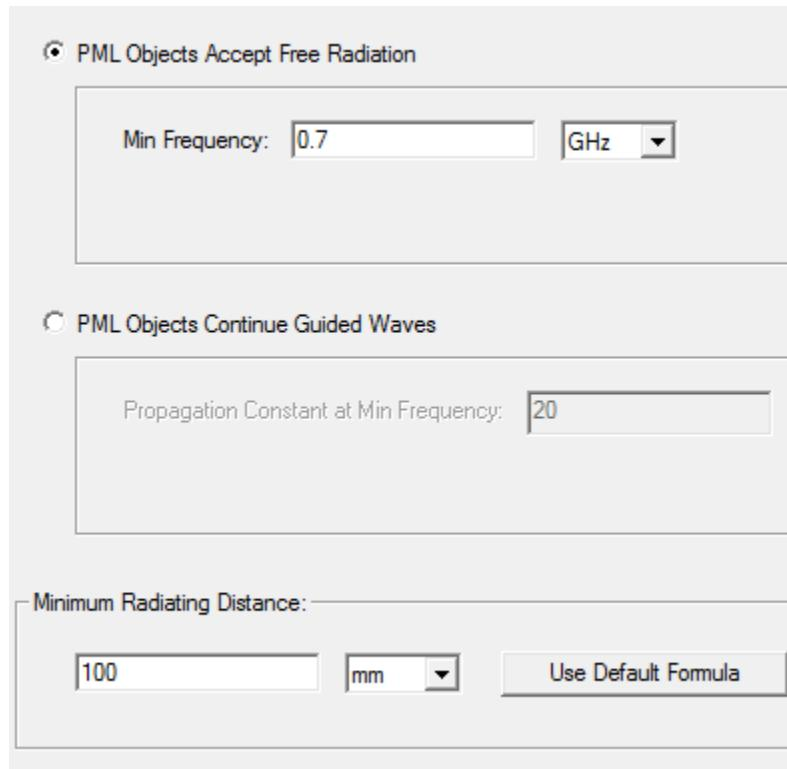

Figure 6. PML Setup Wizard: Material Parameters
- 7 Set the fields in the PML Setup Wizard: Material Parameters dialog as shown in Figure 6.